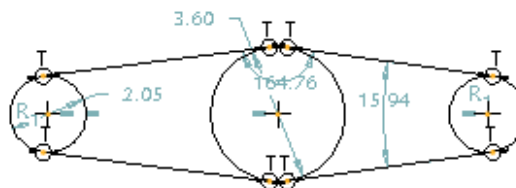

Figure 3-29 Tangent lines drawn on the circles
5. Similarly, using the **Line Tangent** button, draw the other tangents through the bottom-most points of the left, middle, and right circles, as shown in Figure 3-29.